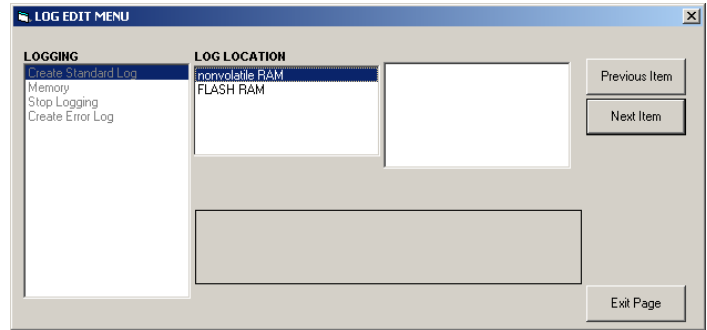

Figure 12: Signal array data displayed on PanaView
- If you double-click on *to display*, the right pane of the window appears similar to *Figure 12* below, and the data is available for immediate evaluation. Click [exit page] to close the window and return to the *calibration/test* menu.